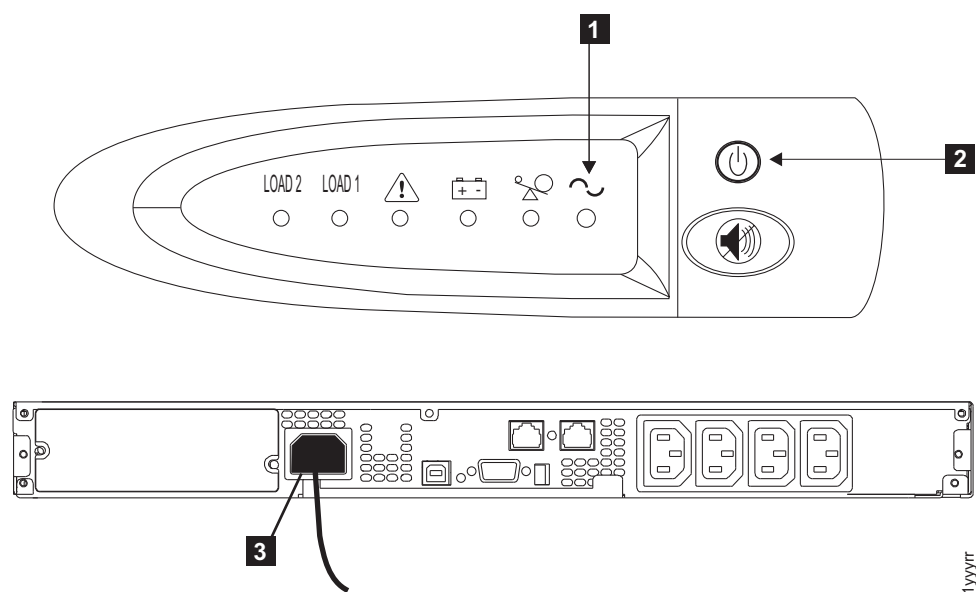

Figure 357. Front and back panels for the 2145 UPS-1U
2. Press and hold the on/off button (**2**) until the power light (**1**) is extinguished (approximately 5 seconds). On some versions of the 2145 UPS-1U, you need a pointed device, such as a screwdriver, to press the on/off button. The 2145 UPS-1U enters standby mode, with all indicators off. Figure 357 illustrates the front and rear views of the 2145 UPS-1U.